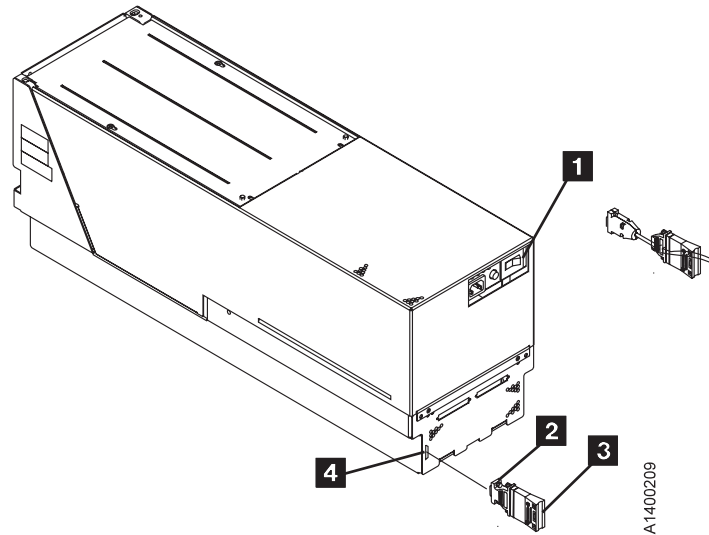

Figure 272. Installing Wrap Tool (Rear View)
- ___ 1. See Figure 272. Be sure that the power switch **1** is in the OFF position.